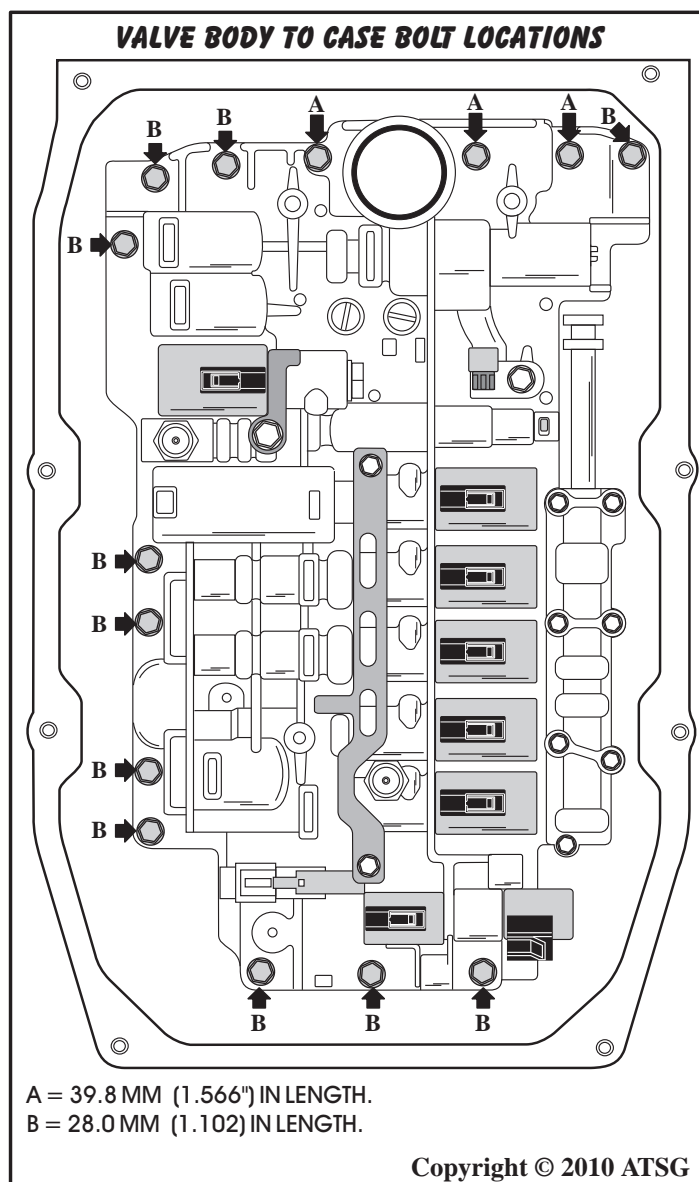

Figure 231
55. Install the 14 valve body to case bolts in their proper locations using Figure 231 as a guide.